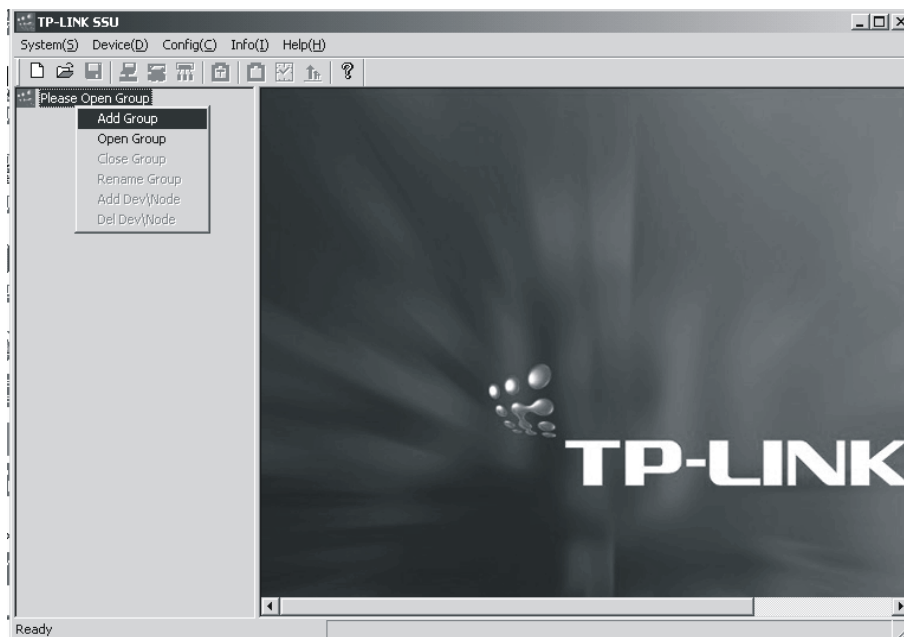

Figure 5-5
- b) Click the right button at **Please Add Group** on initialized interface and then pop up a menu, click **Add Group**. As figure 5-5